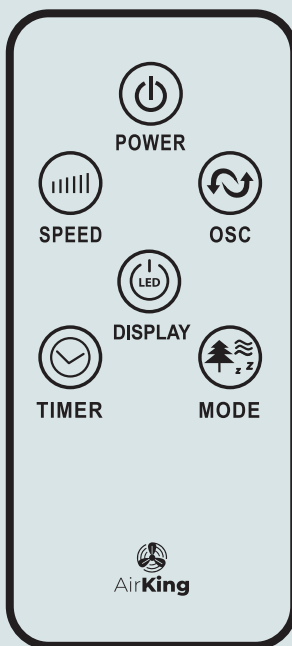
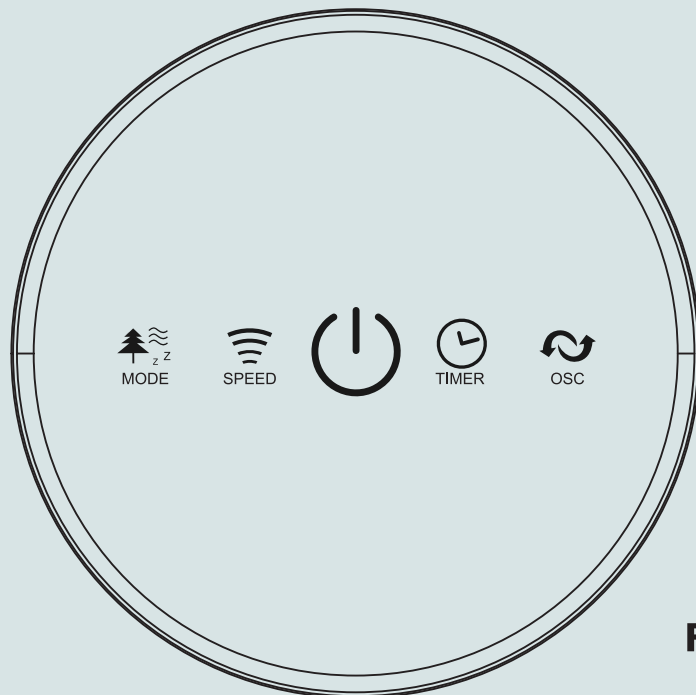

FIG. 3
FIG. 4
2. The remote control buttons are labeled as such (Fig. 3). All the functions performed with the remote control work identically to the manual controls (Fig. 4)
The FAN may be operated by the manual controls located on the FAN (as shown in Fig 4) or by your remote control (shown in Fig. 3) .
**SPEED:** You can adjust the fan speed to the desired level: low, medium, or high by pressing 'PEED'. The speed setting is displayed on the LED display. (Fig 4)